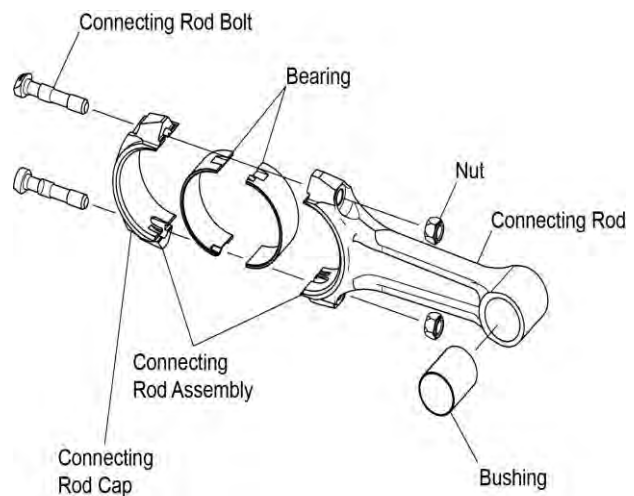

Figure 19
- (1) Remove and discard the two nuts (Figure 19) and the two bolts that attach the connecting rod cap to the connecting rod.
- (2) If the two nuts in the connecting rod cap cannot easily be removed, use a soft (plastic head) mallet and gently tap on the end of the two bolts to remove the nuts and the bolts. Discard the connecting rod bolts and nuts.
- (3) Remove the connecting rod cap and connecting rod; keep them together, label the throw position of the connecting rod.
- (4) Remove and discard the two connecting rod bearing halves.
- (5) Keep the connecting rod cap with its corresponding rod.